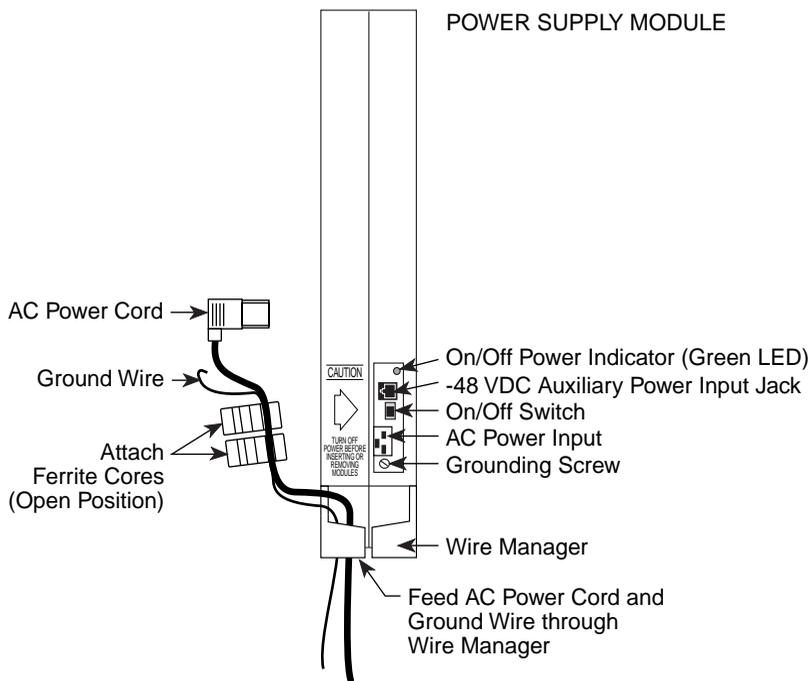

Figure 2-7. Installing the Ferrite Cores
- ▶ 1. Feed the AC power and ground wire through the wire manager (refer to Figure 2-7).
- ▶ 5. Slide the ferrite cores between the wire manager and the power supply module (refer to Figure 2-7).